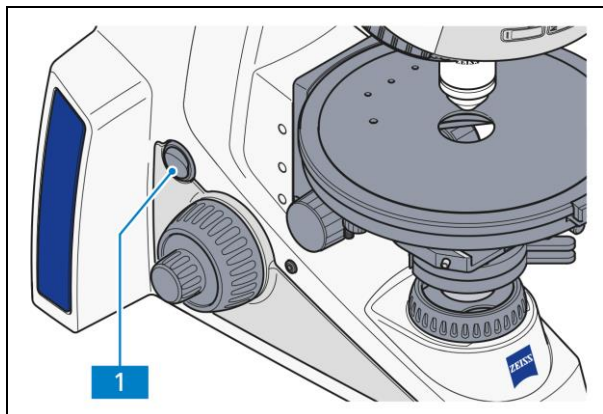

Fig. 3-32 Mains switch on left side of microscope
- Switch the microscope on/off using (Fig. 3-32/1) the on/off switch.